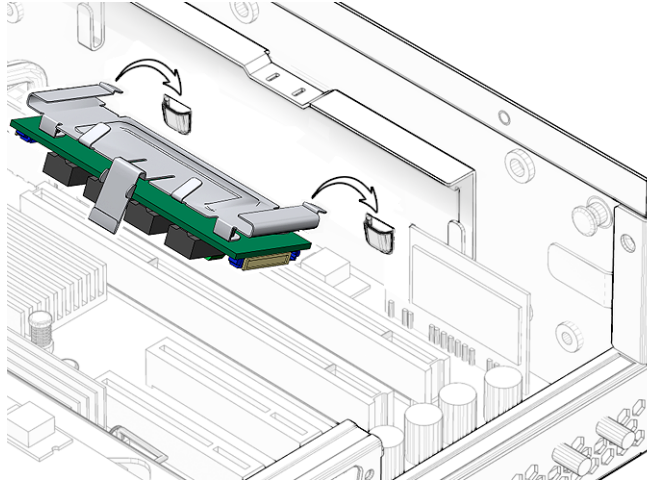

FIGURE 3-79 Aligning the Alarm Board With Chassis Wall
2. **Align the tabs of the alarm board with the slots in the chassis wall** (FIGURE 3-79).